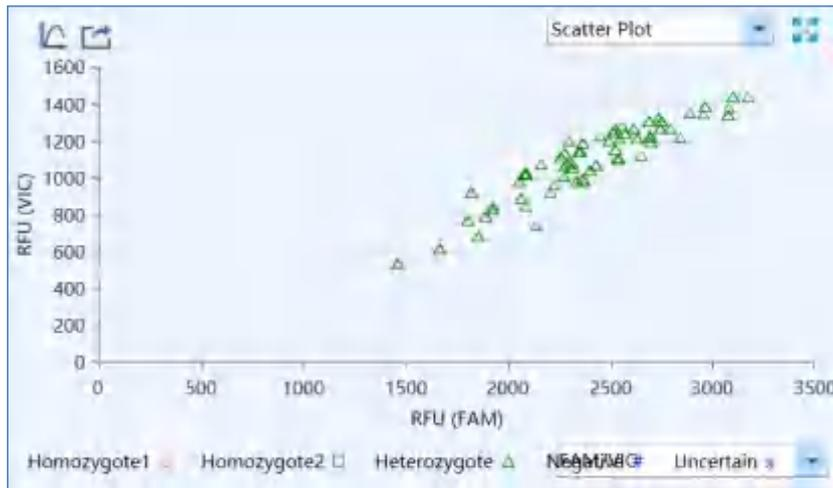

Figure D-15.1. Genotyping analysis interface - Scatter Plot functional module
- I. **Scatter Plot:** display the end point fluorescence distribution of two dyes, as shown in figure D-15.1.